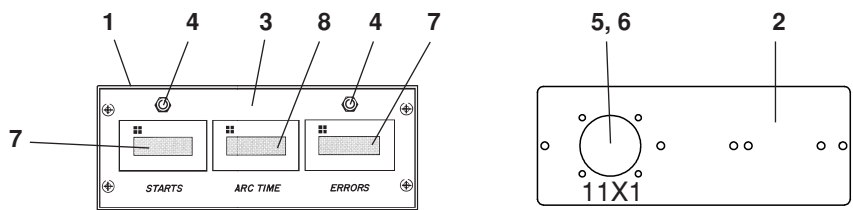

Figure 6-14 Timer/Counter
* Items are not shown in Figure 6-14.